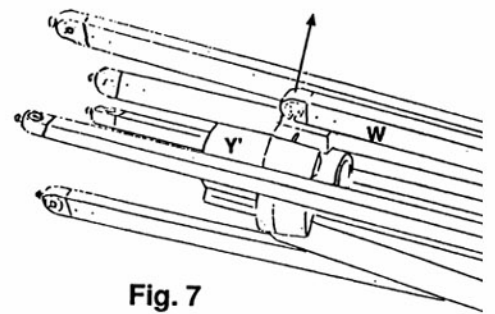

Fig. 7
2. (fig. 7) release the rib (W) to be exchanged from the lower hub(Y') by pulling forcefully upwards.